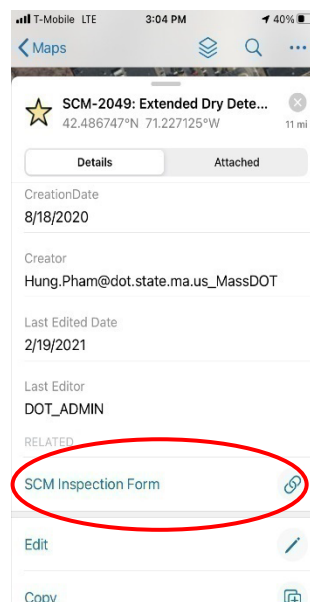

Figure 57
1. Select the asset you want to inspect. Attributes for the selected asset will appear. Scroll all the way to the bottom of the attribute list and click on the inspections link (Figure 57).